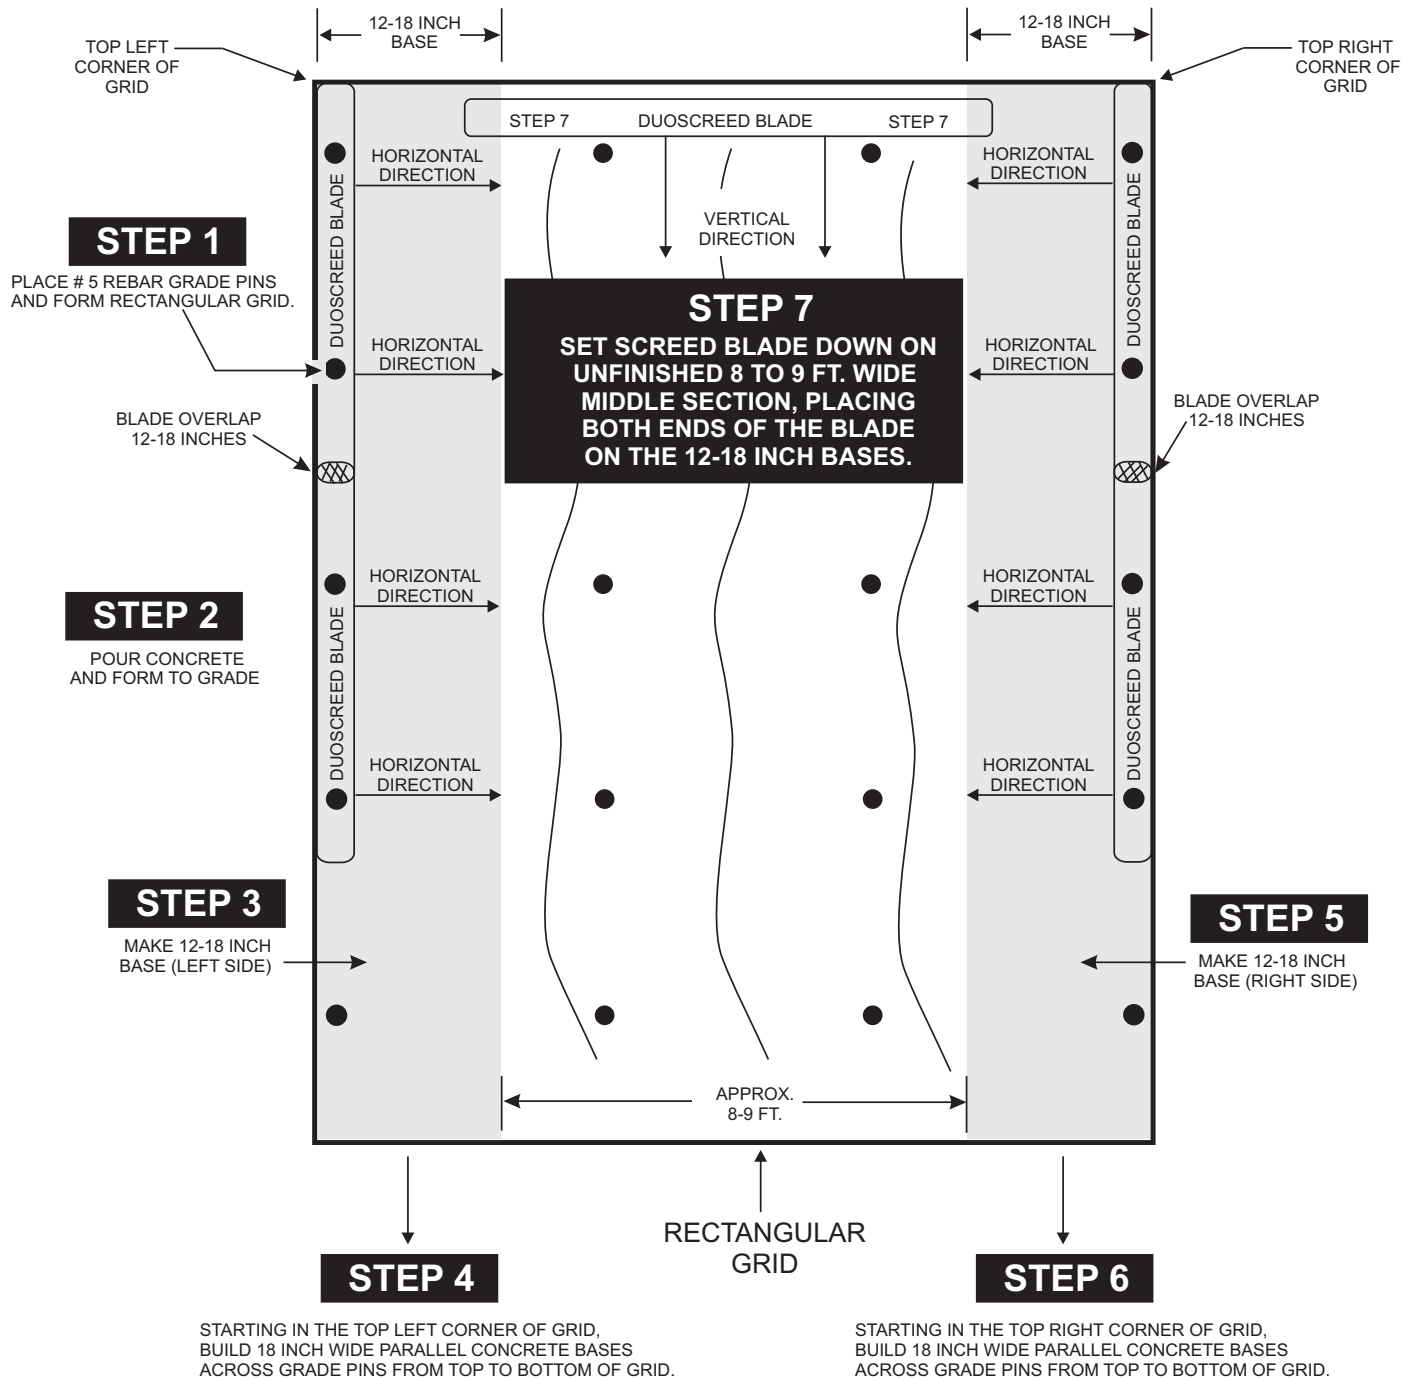

Figure 16. DuoScreed Wet Screeding Application
8. Set the DuoScreed blade down in the concrete base in the **left** most corner of the grid between the two grade pins as shown in Figure 16. Adjust the DuoScreed's handle bar to a height where the operator is not bending over, but standing upright with arms extended forward.
12. After a complete pass over the first set of grade pins has been made, remove the DuoScreed from the concrete base and position it over the second set of grade pins (Figure 16), overlapping the first set of grade pins between 12-18 inches. Repeat this process until all **left** edge grade pins have a level base between 12-18 inches wide.